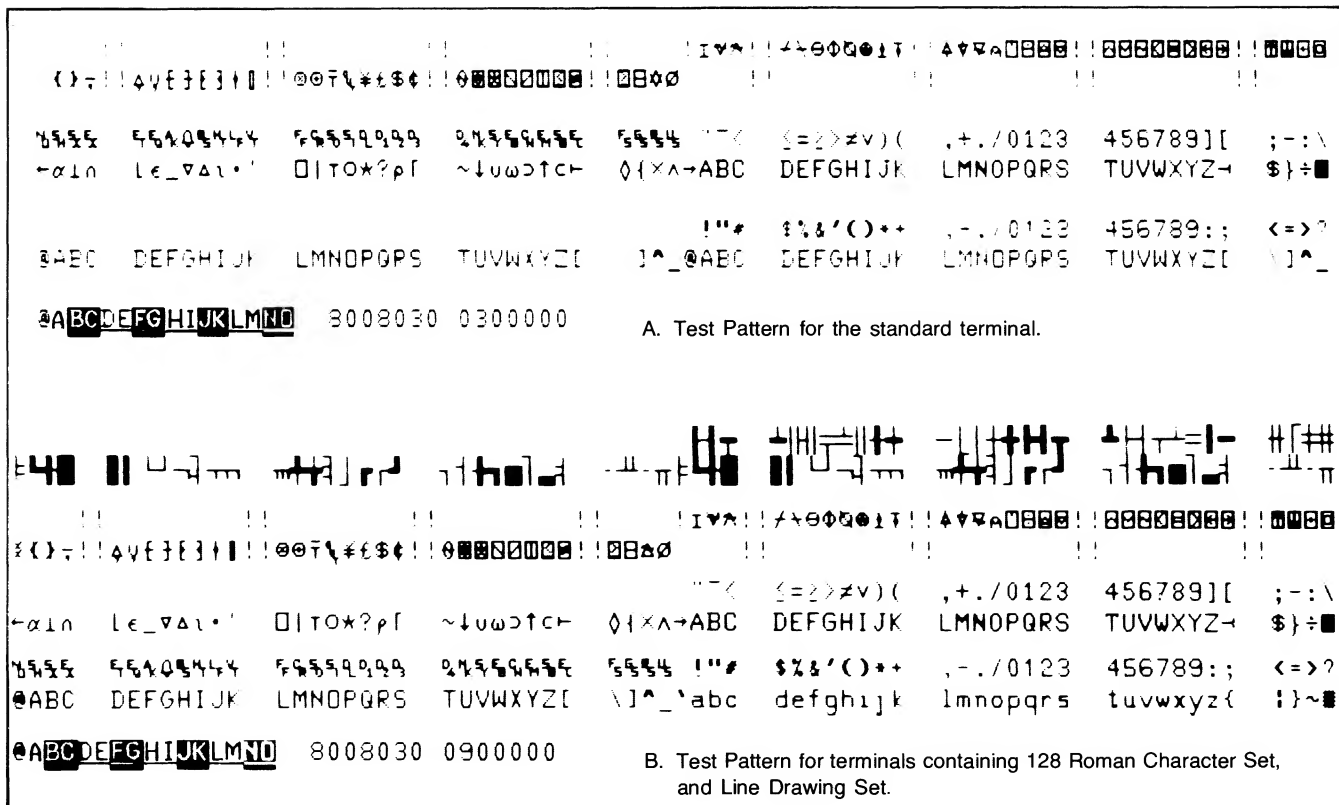

Figure 7-38. Basic Self-Test Patterns (HP 2641A)
- Basic self-test patterns for the HP 2641A are given in figure 7-38.